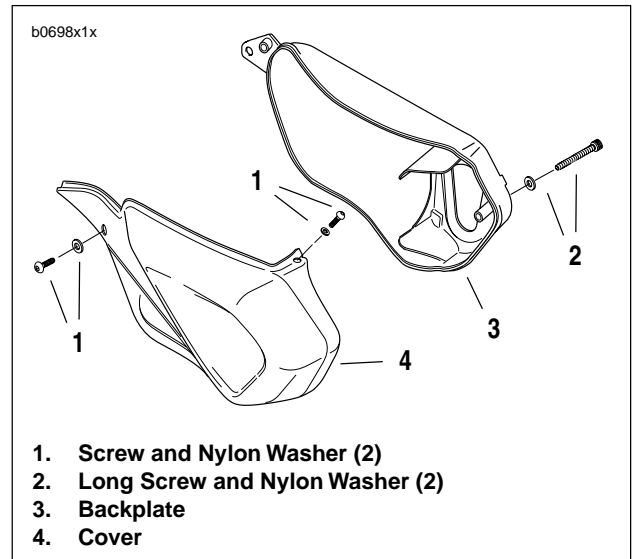
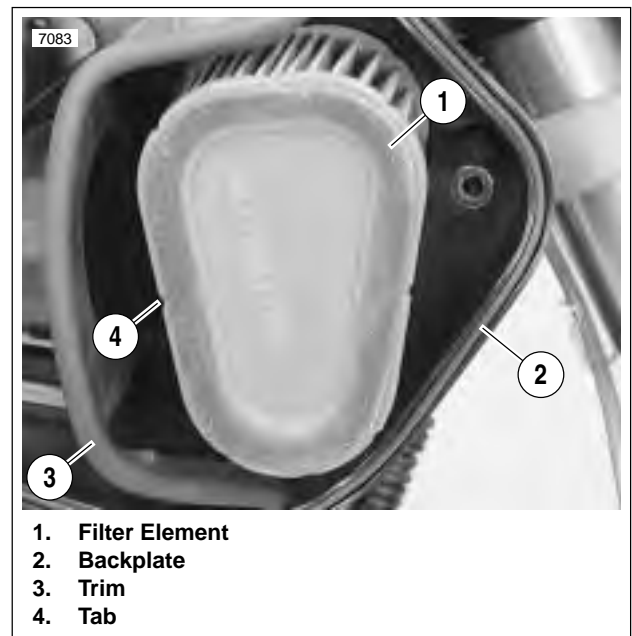

Figure 1-42. Air Cleaner Cover
Figure 1-43. Installed Air Cleaner Filter
1. See Figure 1-42. Remove two small screws and nylon washers (1).
2. Remove large screw and nylon washer (2). Lift cover (4) away from backplate (3).
3. See Figure 1-43. Remove the filter element (1) from backplate (2). Inspect and replace if necessary.
1. See Figure 1-43. Place filter element (1) inside backplate. Align tabs (4) on element with tabs on backplate. Two small strips of tape may be used to align element with backplate opening.
2. See Figure 1-42. Position air cleaner cover (4) over backplate (3). Make sure air filter and trim are correctly positioned.
3. Install long screw and nylon washer (2). Tighten to 27-29 **in-lbs** (3.1-3.3 Nm).
4. Install two screws and nylon washers (1) to secure air cleaner cover. Tighten to 27-29 **in-lbs** (3.1-3.3 Nm).